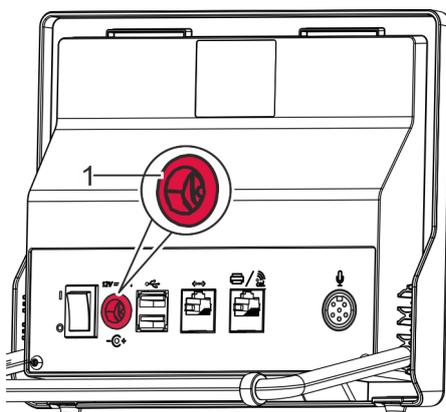

Fig. 40: Removing the power supply unit cable
3. → Pull the power supply unit cable from the mains connection (Fig. 40/1).